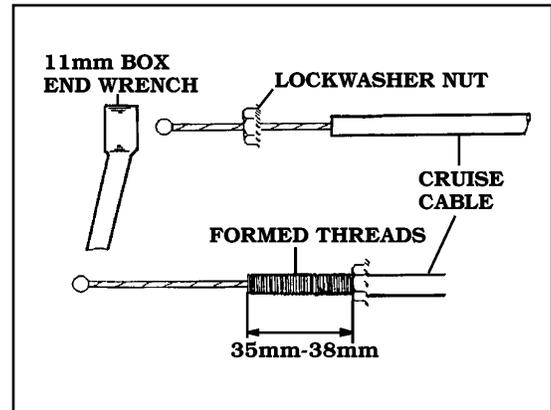

Figure 20
1. Before using the **SNAP-IN ADAPTER**, remove the Adjustable Sleeve from the **CRUISE CABLE**. To use the **SNAP-IN ADAPTER**, it will be necessary to form threads on the end of the **CRUISE CABLE**. This is easily accomplished by placing the **LOCKWASHER NUT** on the end of the **CRUISE CABLE** with your fingers. Then using an **11mm** box end wrench and turning clockwise until the desired amount of threads have been formed. **Figure 20**
3. Before using the **LOCKWASHER NUT**, remove the Adjustable sleeve from the **CRUISE CABLE**. Then use the **LOCKWASHER NUT** to form threads on the end of the **CRUISE CABLE**. This is easily accomplished by placing the **LOCKWASHER NUT** on the end of the **CRUISE CABLE** with your fingers. Then use an **11mm** box end wrench and turn clockwise until the desired amount of threads have been formed. **Figure 20, Page 14**
1. Before using the **FLAG NUT**, it will be necessary to form threads on the end of the **CRUISE CABLE**. This is easily accomplished by placing the **LOCKWASHER NUT** on the end of the **CRUISE CABLE** with your fingers. Then use an **11mm** box end wrench and turn clockwise until the desired amount of threads have been formed. **Figure 20, Page 14**